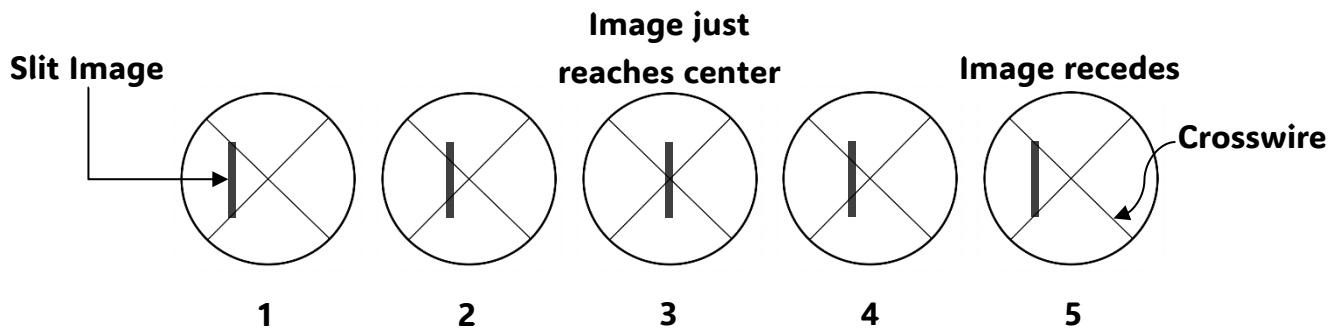

Fig. 6
- If you lock the telescope in this position, disturb the prism table a little bit, and gradually rotate it to bring it back to the original position and continue in the same sense, the successive view that you will see in the telescope are like that shown in *Fig. 6*.